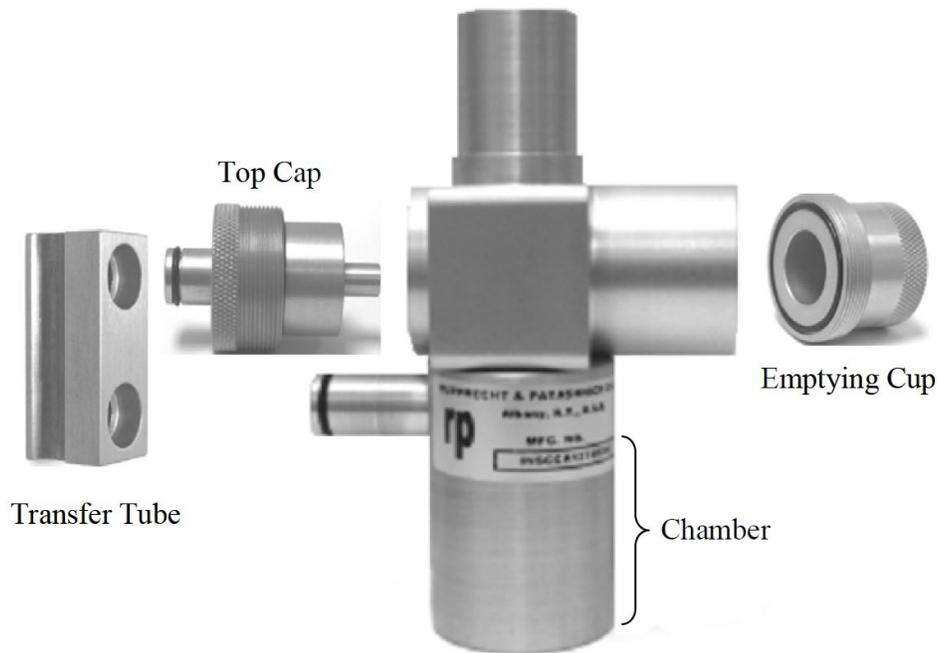

Figure 5-4. Exploded view of VSCC components (Vaughn, 2009)
1. Remove the top cap and the emptying cup as shown in Figure 5-4.